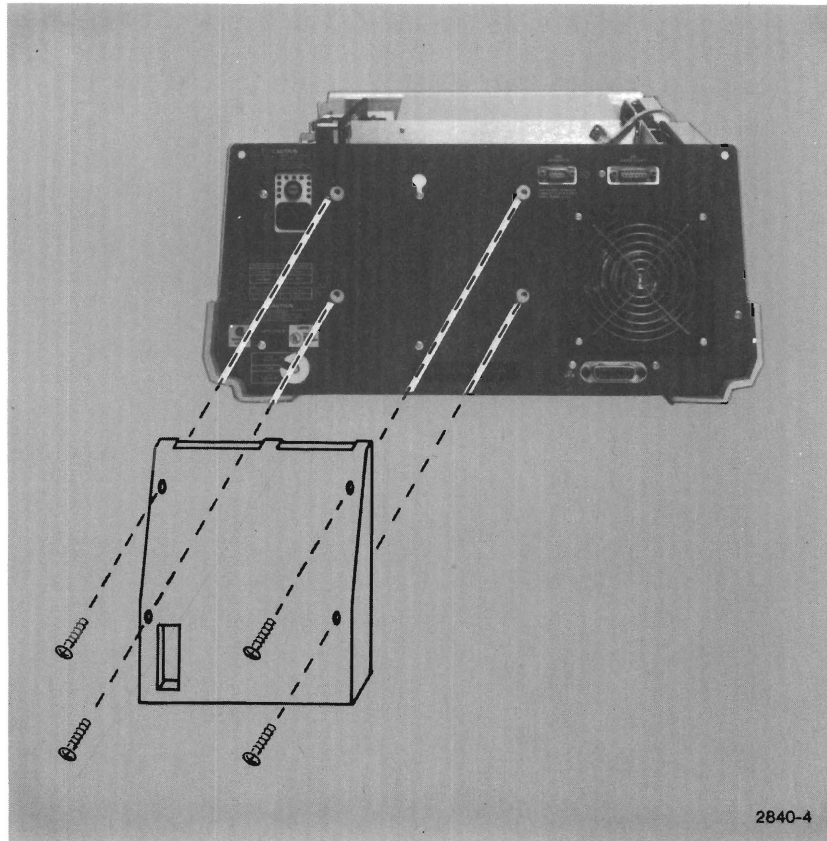

Figure 3-10. Backpack Removal.
4. Remove four Phillips screws to free the backpack (Figure 3-10). Pull gently near the bottom of the backpack to separate the edge card connectors. The shorter screws go in the top of the backpack.